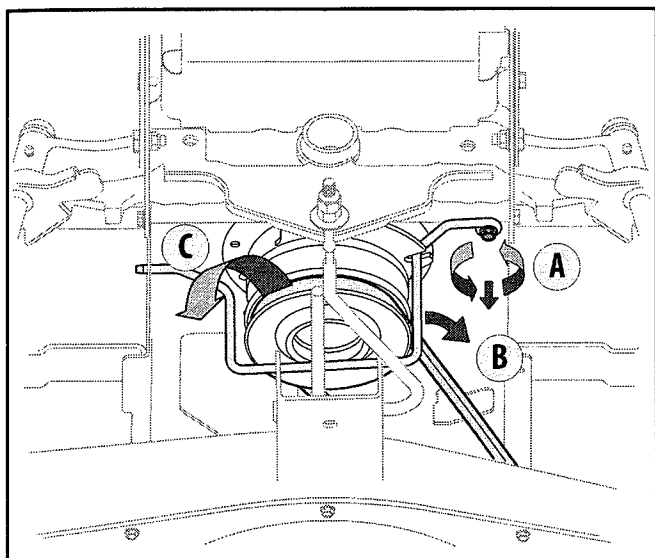

Figure 23
3. Remove the deck belt. See Figure 23.